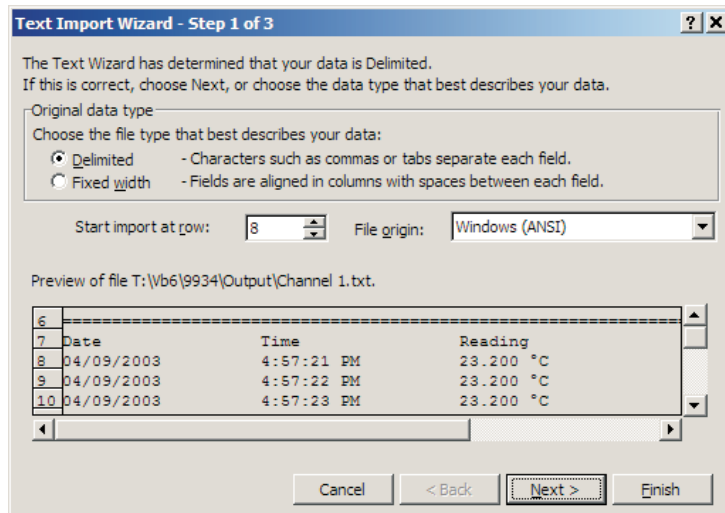

Figure 9 Text Import Wizard – Step 1 of 3 dialog
- The Text Import Wizard – Step 1 of 3 dialog appears, Figure 9.